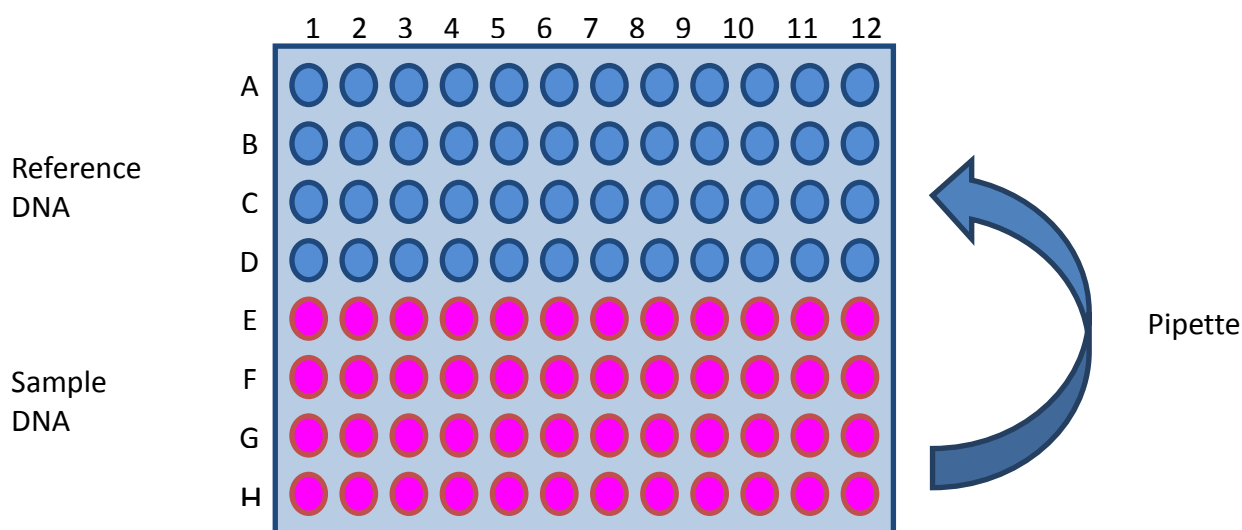

Figure 4: Combining labelled sample and reference DNA
12. Combine the Cy3-sample and Cy5-reference DNA. Pipette the sample in well E1 into well A1, thus combining it with the reference DNA. Continue along the row, combining E2 with A2, E3 with A3, and so on. Continue for each row until all the samples have been combined with reference DNA (Figure 4).